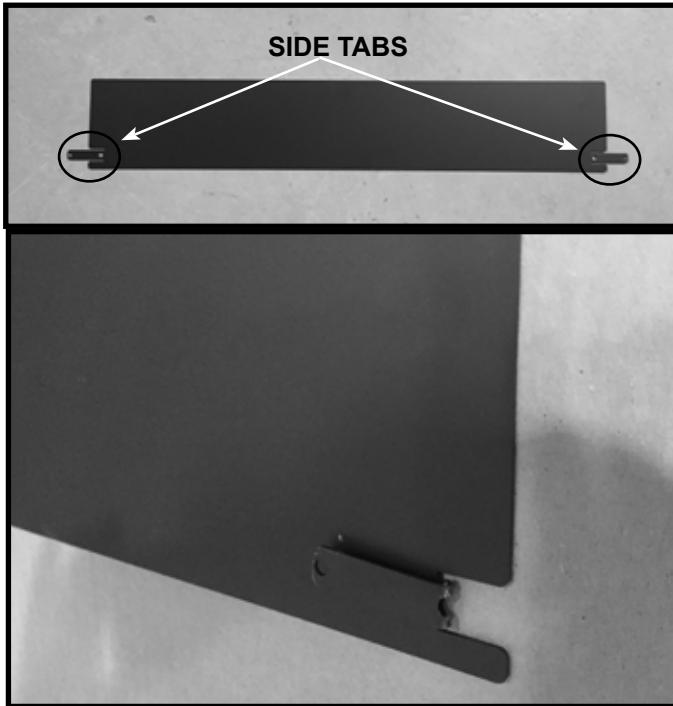

Figure 3. Bend Side Tabs on Vanity Panel
4. Bend left and right side tabs on vanity panel “back” until they are parallel with the vanity panel itself. See Figure 3.